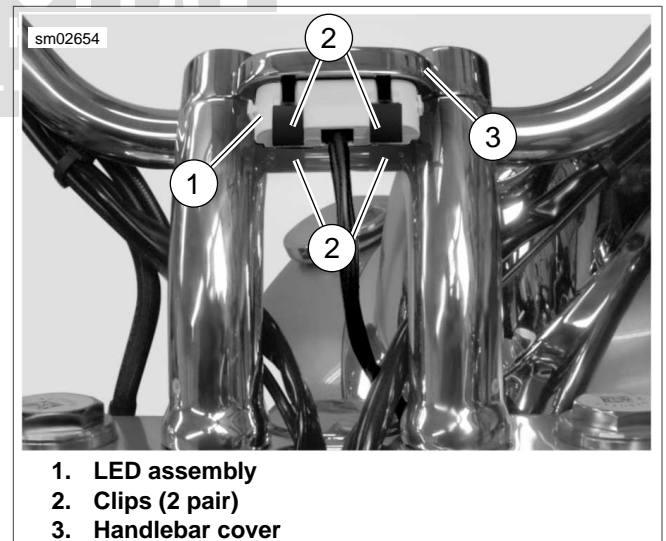

Figure 7-65. FXDL LED Assembly
2. See Figure 7-65. Squeeze clips (2) together and gently pull LED assembly (1) from handlebar cover (3).
1. See Figure 7-65. Install LED assembly (1) into handlebar cover.
2. Engage clips (2) into tabs on LED assembly.